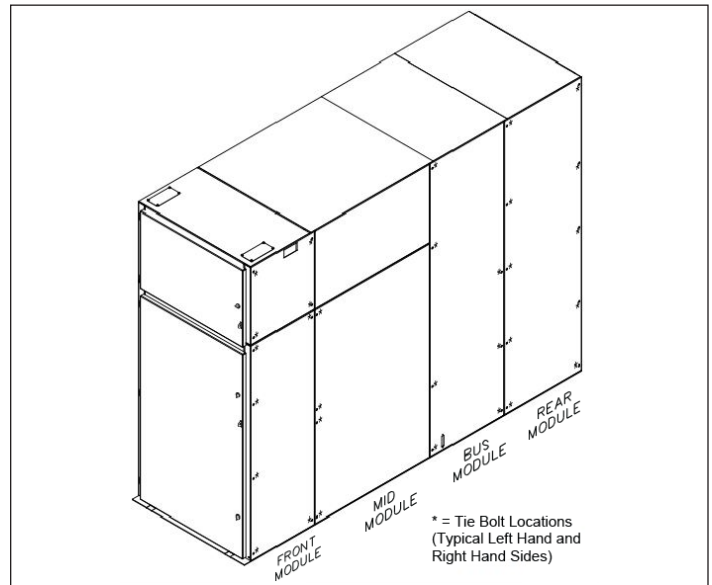

Figure 12. General Tie Bolt Locations for 38 kV Structures. Refer to Operation IB for Locations.
5. Bolt the groups together through the tie bolt holes. The tie bolts should be inserted into the tie bolt holes and should be loosely tighten, ONLY. Refer to Figures 12 and 13 for typical tie bolt locations.